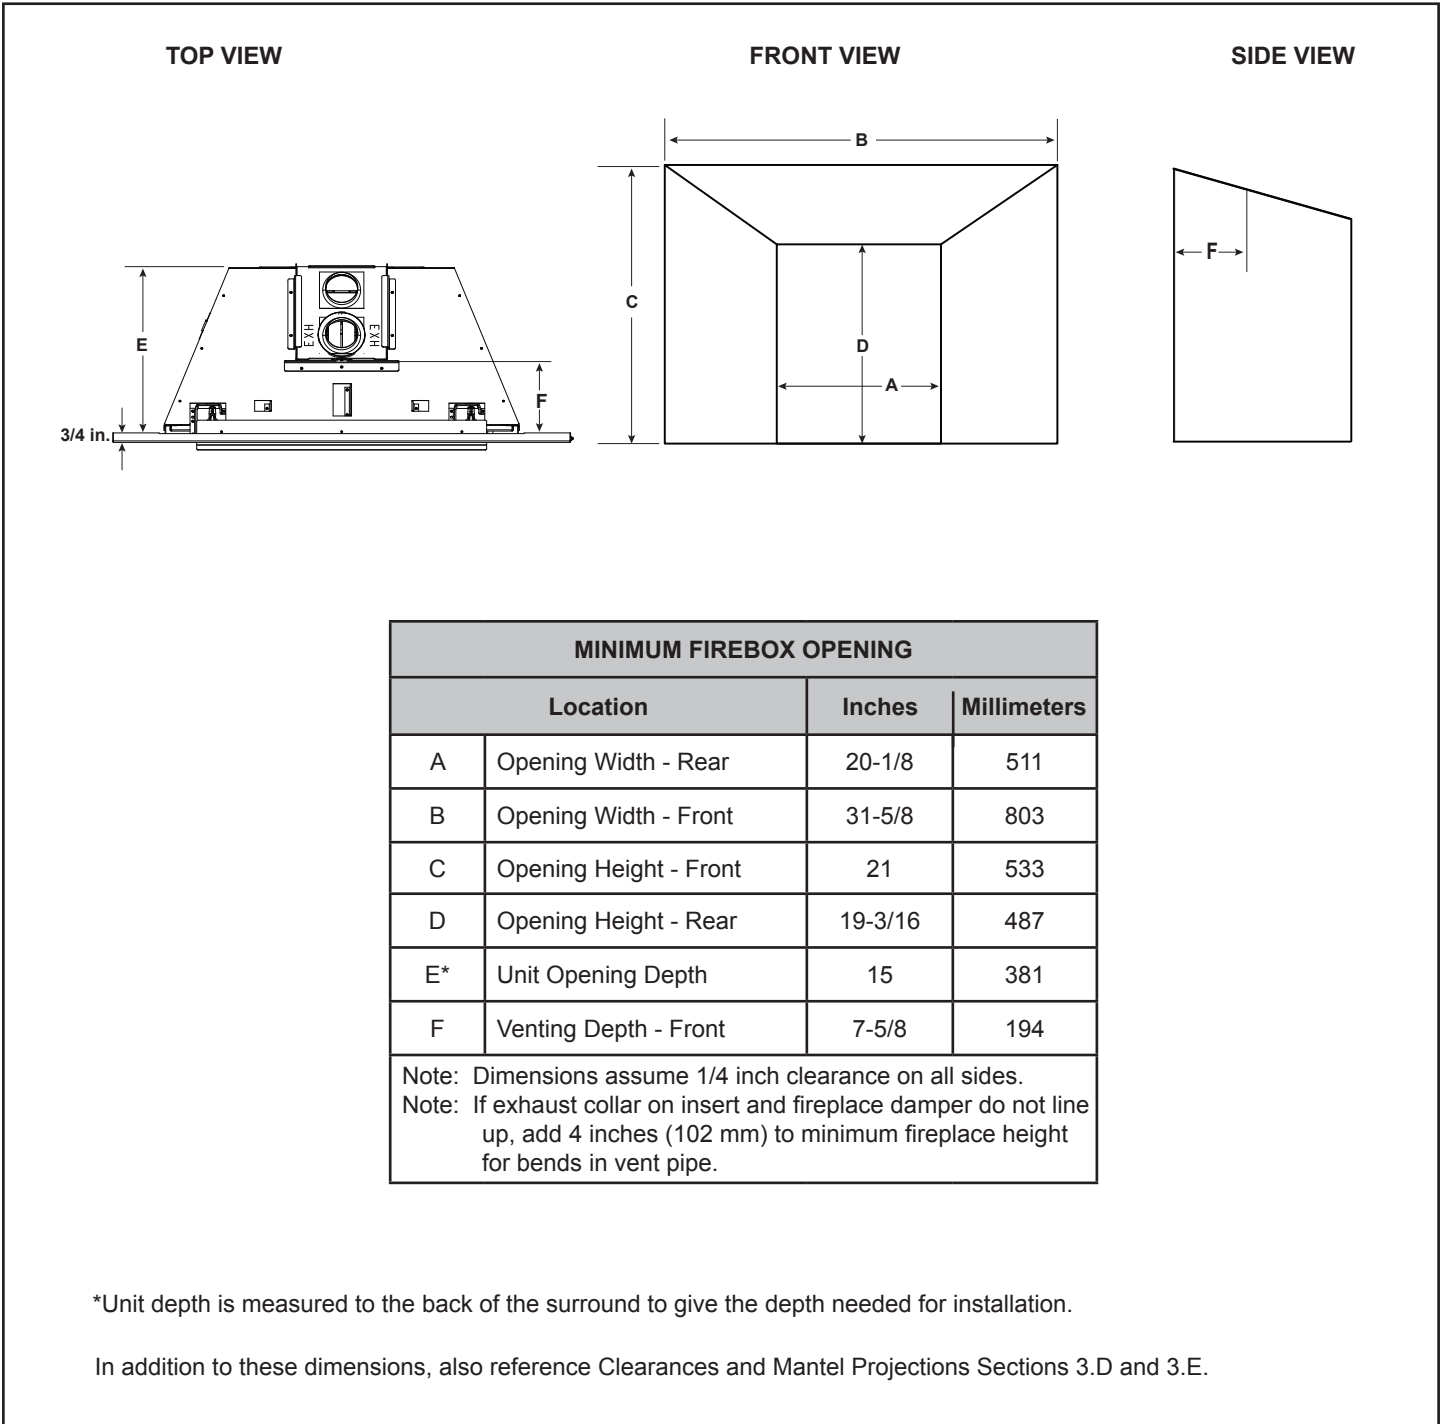

Figure 3.6 Firebox Opening - Standard Surround - 3/4 in.
**\*Note:** Location G is the appliance depth measurement, for installation depth reference Location E on Figure 3.6.
Minimum fireplace opening requirements for a standard 3/4 inch deep surround and deep flush surround are shown in Figure 3.6. Unit opening size is the same for both standard surrounds.